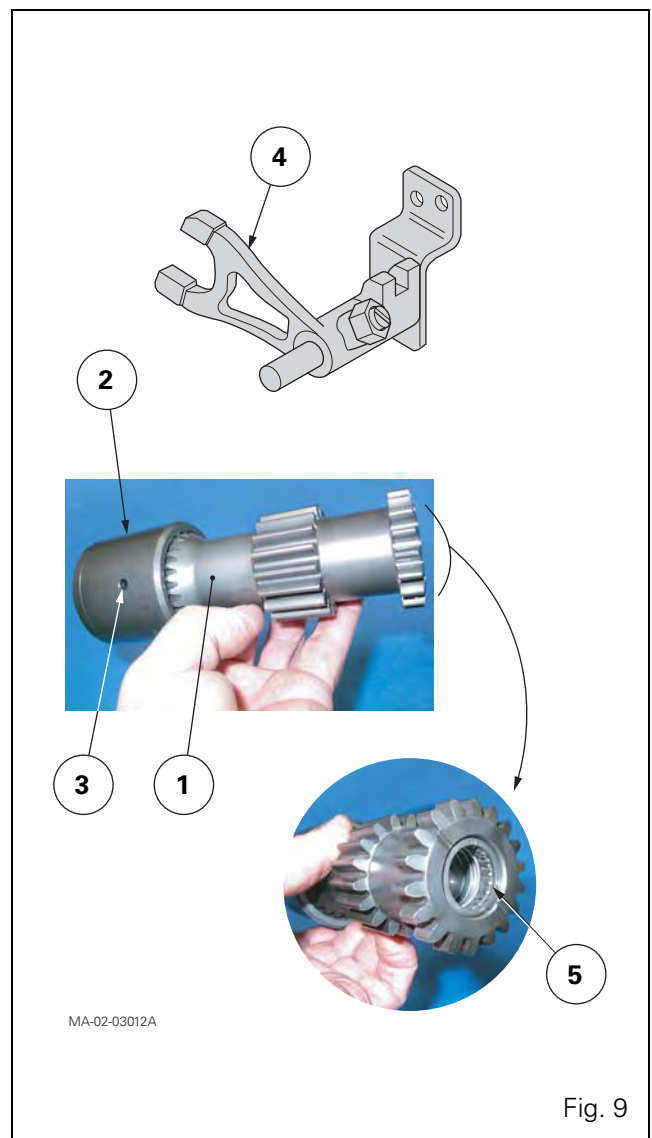

Fig. 9
- The shaft (1) composed of the sleeve (2) and double pin (3) is correctly assembled (Fig. 9).
39. Push the fork (4) towards the front of the gearbox in direct drive position (Fig. 9).
NOTE: The gearbox output shaft supports the shaft (1) via the needle roller bearing (5) (Fig. 9).